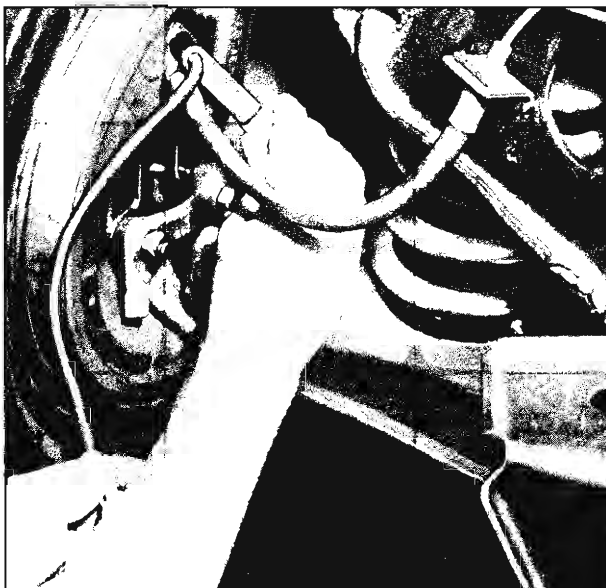

Fig. 5—Bleeding Operation at Wheel Cylinder
3. Remove bleeder valve screw, install bleeder hose through Tool J-7647 and slip hose onto bleeder valve as shown in Figure 5. Place other end of hose in a container having sufficient fluid to cover end of hose.